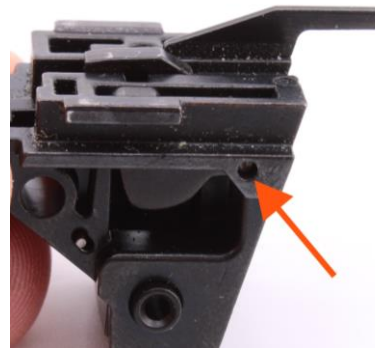
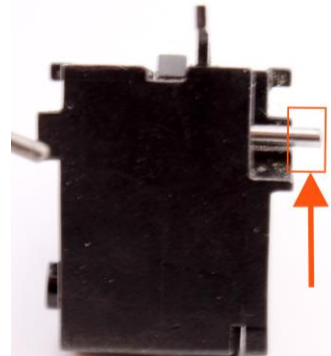

Figure 4
Figure 5
8. Pull FC Housing, free it from the Trigger Bar and Slide Stop Lever. Use punch to drive pin shown in Figure 4 until about half way out (Figure 5).